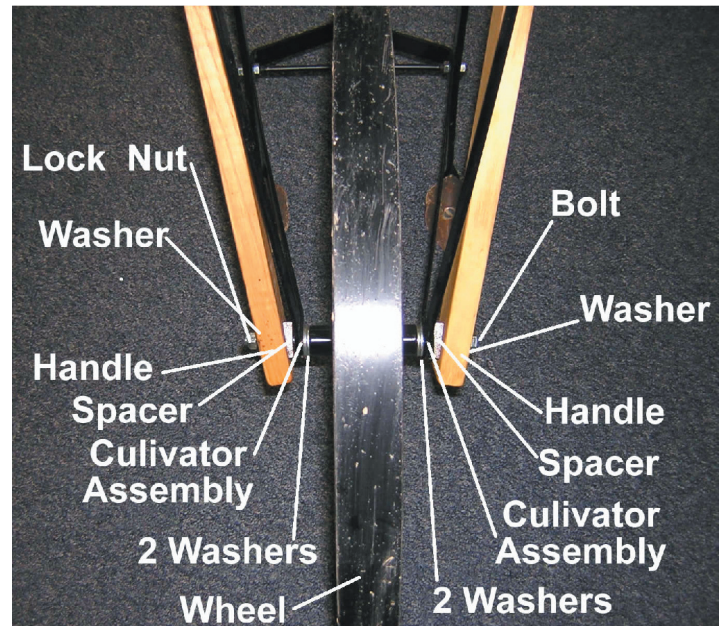

Figure 2
3. Attach the axle and handles with hardware in the following order (as shown in Figure 2):